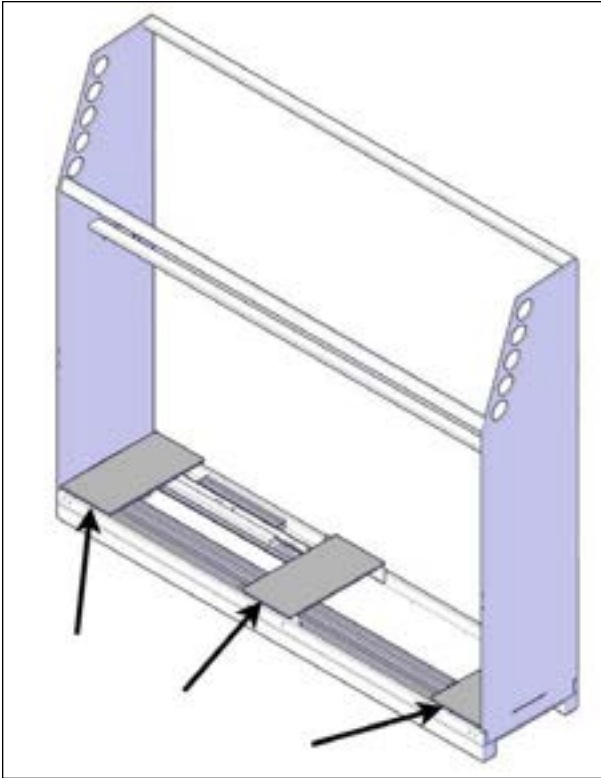

FIGURE 30: BASE PLATE
- Pry off the three base plates of the crate using your hand or a hammer if needed see Figure 30.